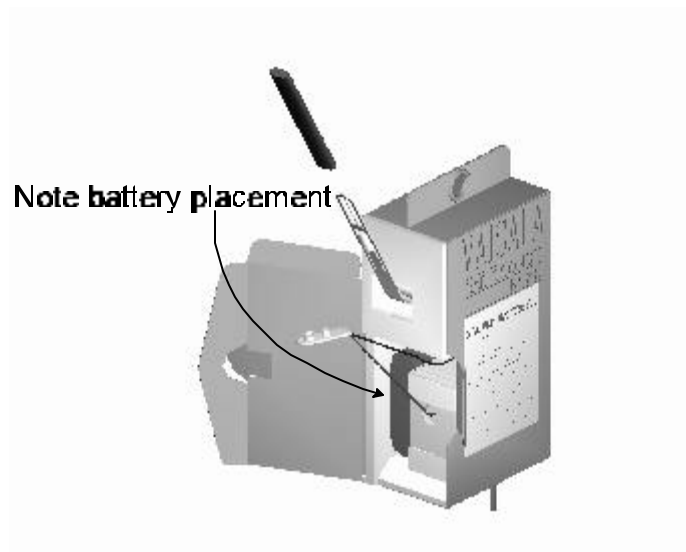

Figure 5
9. Disconnect the battery from the battery tester, wipe any excess water from the outside of the battery with a paper towel, and insert the battery into the radiosonde battery compartment as shown in Figure 5.